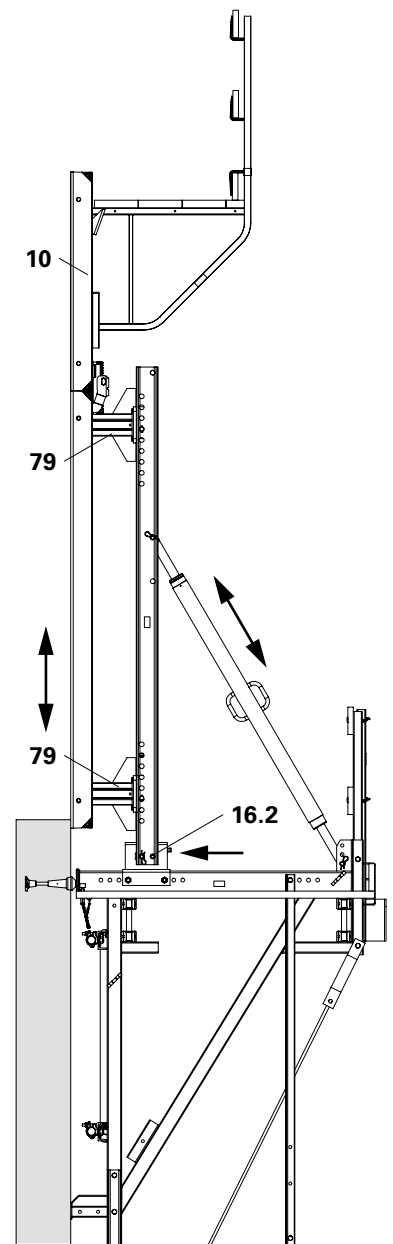

Fig. B2.20
6. Insert formwork (78) with Lifting Hook MAXIMO 1.5 t (80) into the Connectors TRIO-CB (79) and secure using bail $\text{\O} 25$ (79.1).
9. Align formwork, see B3. (Fig. B2.20)